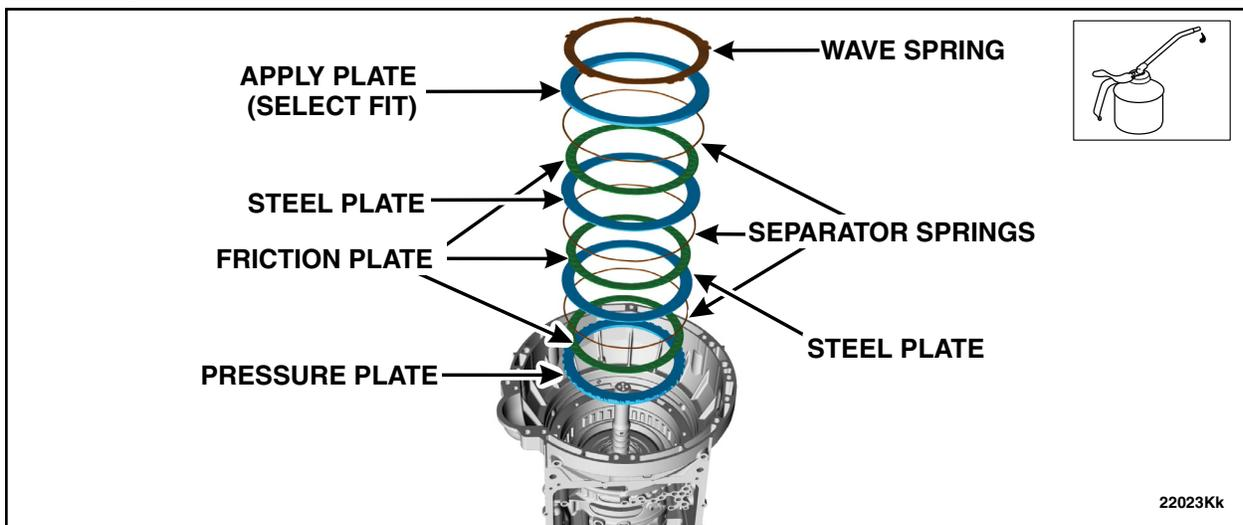

FIGURE 46
53. Soak the A clutch plates in clean Motorcraft® MERCON® ULV Automatic Transmission Fluid / XT-12-QULV (WSS-M2C949-A,) (MERCON® ULV) transmission fluid. Install the A clutch assembly. See Figure 46.